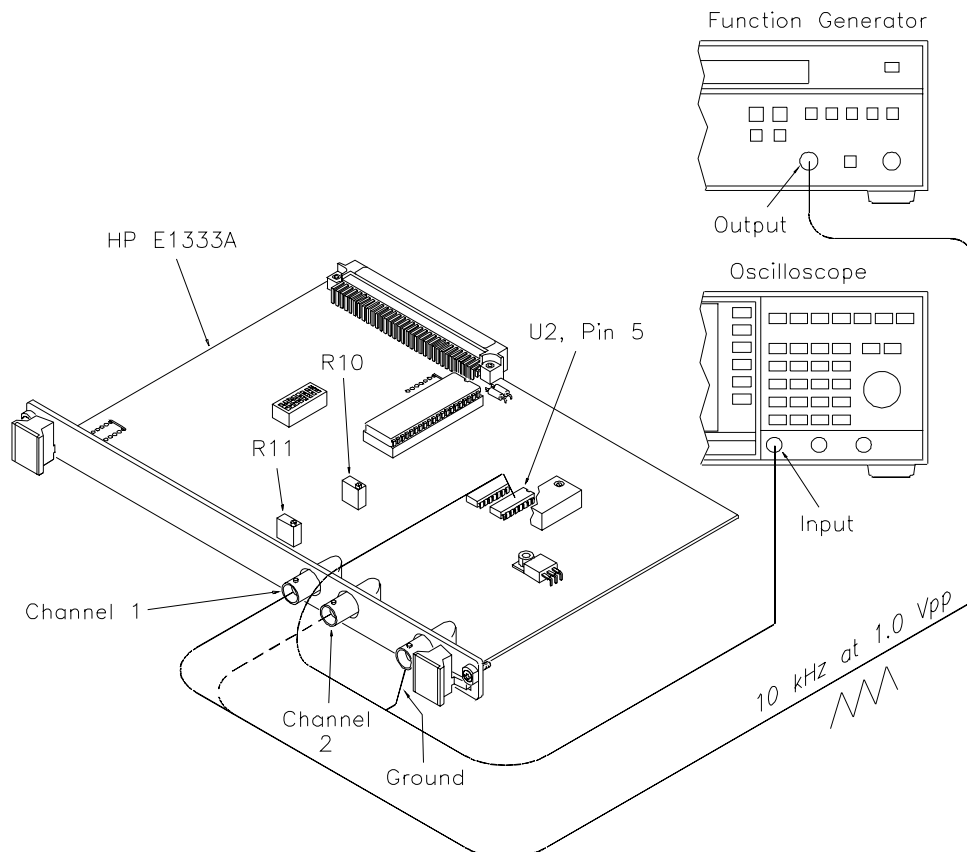

Figure 5-2. Trigger Level Zero Adjustments
1. For Channel 1 trigger level zero adjustments, connect an oscilloscope between U2 pin 5 and the Agilent E1333A input Common, and connect the Agilent 3325A output to Channel 1 (see Figure 5-2).